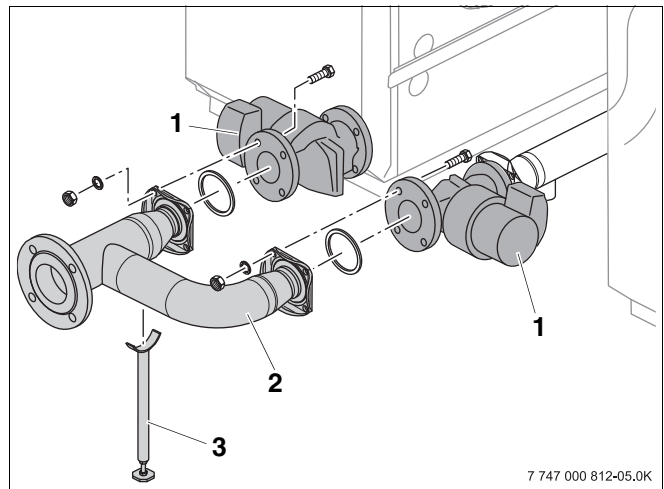

Fig. 12 Fitting return connecting piece
- Secure return connecting piece (Fig. 12, [2]) with gasket to pump (Fig. 12, [1]) using four bolts and nuts, as shown in Fig. 12.
- Position brace (Fig. 12, [3]) under the return connecting piece and adjust its height until the return pipework is stress-free.